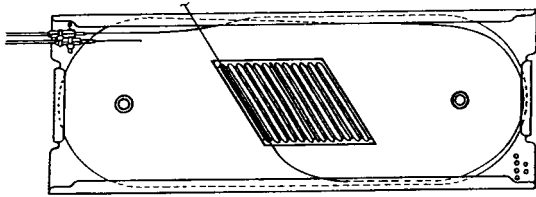

FIGURE 30 - ROUTE FROM OPPOSITE DIRECTION
16.07 Select the fibers from the opposite direction and route them around the tray until the fibers have made one-and-three quarters of a lap. (Figure 30)